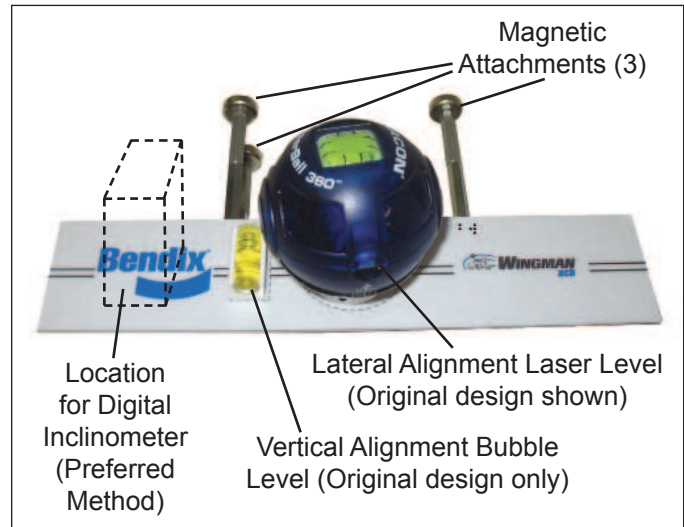

FIGURE 26 - BENDIX® ALIGNMENT TOOL (K041451 OR K041227)
6.7.6 If you have the original design of alignment tool K041451 or K041227 (See Figure 26):